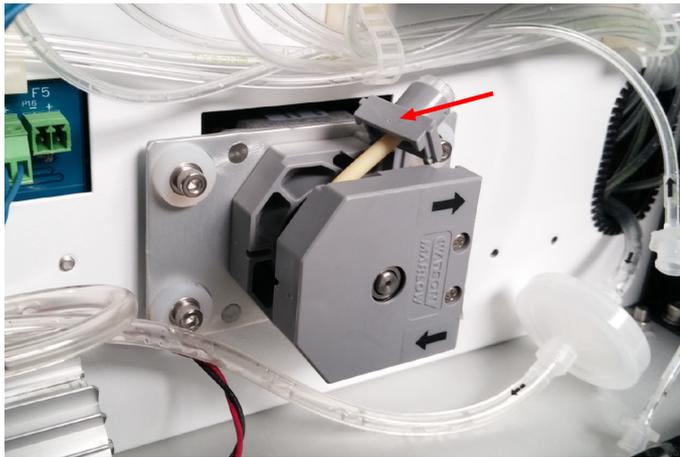

Figure 4-14 Slide Luer Lock Fittings off the Pump Head
- 5 Pull the Luer connectors outward and slide the luer lock fittings off the pump head (Figure 4-14);